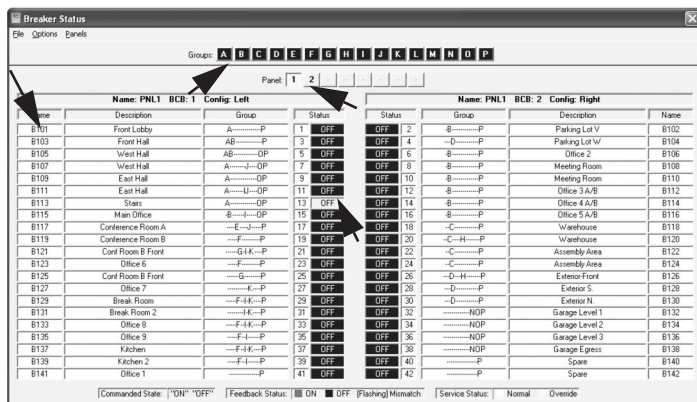

FIGURE 38. BREAKER STATUS DISPLAY
When viewing the Breaker Status window of a PRC1000 panelboard, the subpanels again become apparent. At the top-center of the Breaker Status window (above the breaker graphics) is an information region displaying the left and right panelboard names (see **Figure 38**). Additionally, above the breaker configuration data columns are the BCB configuration summary data. This display can be handy when troubleshooting a panelboard or system, as this information is readily available.
The Breaker Status window of the PRC1000 Panelboard (See **Figure 38**) makes it convenient to view the status of the breakers, edit breaker features, and manually control the breakers of the panelboard and sub-panelboards. The status window is laid out to resemble the panelboard, with the panel name and BCB address at the top of each side of the window. Each breaker can be given a name and a description, and can be added to any group or groups from this window by double-clicking on the corresponding breaker row (1). Any group can be manually controlled by left-clicking the corresponding group letter from the green icons across the top of the page. (2) The breakers can be manually controlled from this screen by double-clicking on the corresponding breaker number or status in the center of the page. (3) Also, the sub-panelboards can be accessed by left-clicking the panelboard number buttons located at the top of the screen below the group buttons. (4)